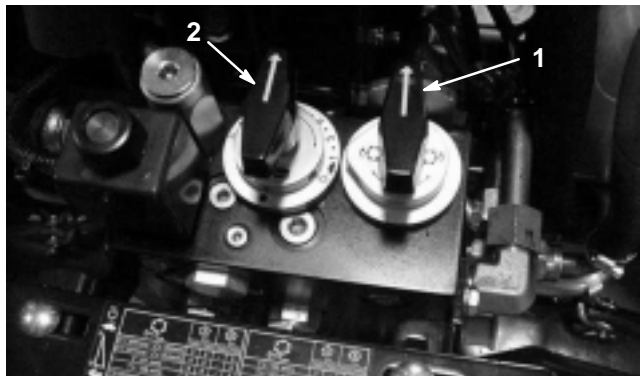

Figure 64
3. Rotate the backlap knob, on the valve block (Fig. 64), clockwise to the backlap position. Rotate the reel speed knob (Fig. 64) to position 1.